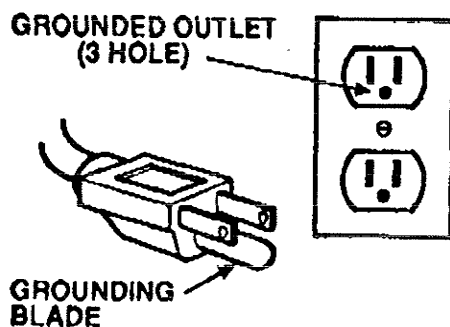

Figure 1
7. Plug into a grounded 120 volt A.C. outlet as shown in Figure 1.